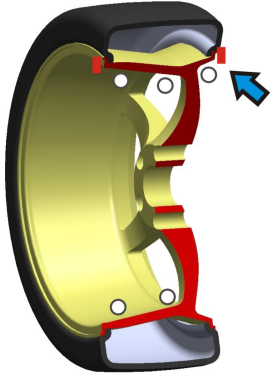

Fig. 3
4.1.6. Anticlockwise moving wheel slowly, until the right LED lit up full, clip weight on 12 o'clock position (Fig.3)